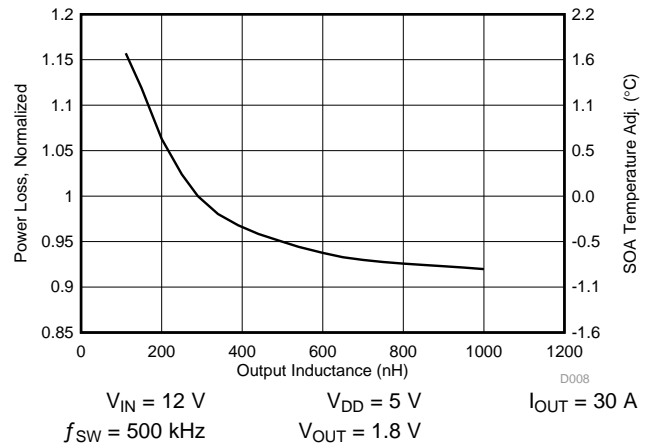

Figure 11. Normalized Power Loss vs Output Inductance
- Normalized power loss for output inductor  $\approx$  1.06 (Figure 11)
- SOA adjustment for output inductor  $\approx$  0.68°C (Figure 11)